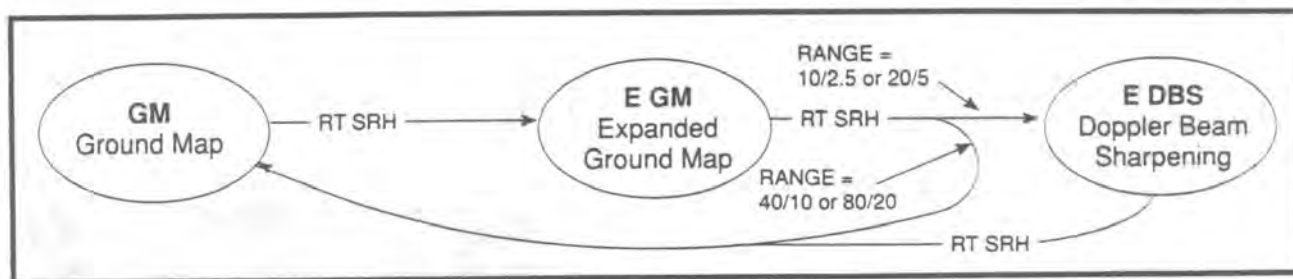

Figure 7-28 Ground Map Submodes
7.226 When the range scale is 40/10 or 80/20, successive selections of RT SRH alternately select unexpanded and expanded GM. The relationship between GM submodes is shown in Figure 7-28.